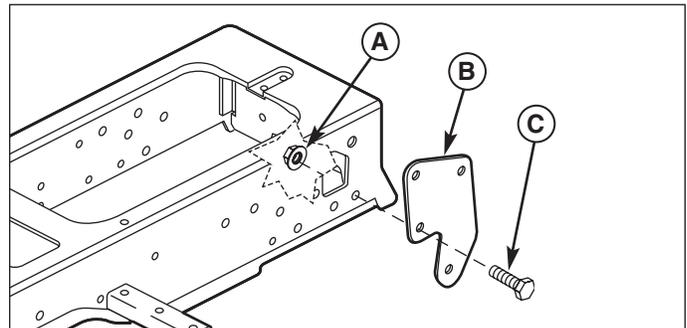

Figure 1. Install Side Brackets
1. Mount the side brackets (B, Figure 1) to both sides of the frame using the holes shown. Secure with one 3/8-16 x 1 capscREW (C) and 3/8-16 nylock nut (A) per side.